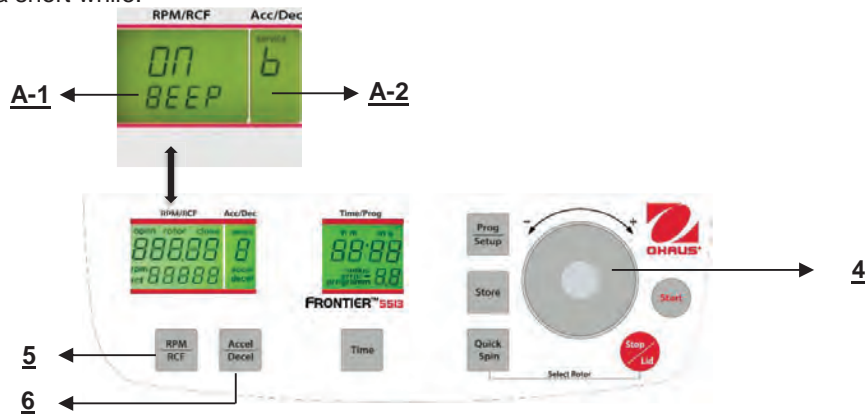

Figure. 33
Proceed as described under point 4.1.2 to enter this program mode and then press the key "**Accel/Decel**" (6). In the display "**Acc/Dec**" (A-2) the word "**Service**" flashes. Now select the letter "**B**" with the adjusting dial (4). As a result, in the display "**RPM/RCF**" (A-1), the word "**ON/BEEP**" appears. After pressing the key "**RPM/RCF**" (5), you can turn the keyboard sound (On) or (Off) with the adjusting dial (4). (See figure 33).